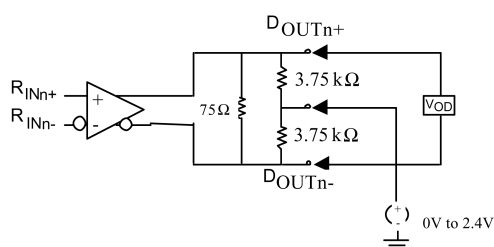

FIGURE 1. Common Mode Supply Test Circuit
1. When the true and complement LVDS outputs (having a  $75\Omega$  connected between outputs) are connected to  $3.75\text{ k}\Omega$  resistors and the common point of those  $3.75\text{ k}\Omega$  resistors are connected to a voltage source that sweeps from 0 to 2.4V, the DC  $V_{OD}$  and  $\Delta V_{OD}$  are still maintained (see Figure 1).